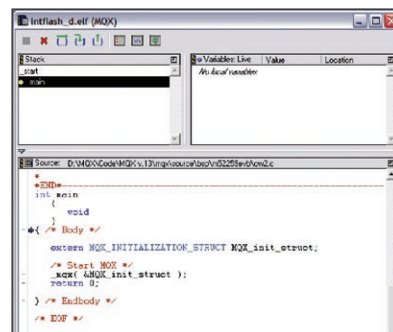

Figure 6: MQX debug entry point
14. Once the debug session starts you will see the MQX entry-point function in the code window as seen in Figure 6. Click the **Debug** icon again to run the code, which will look like Figure 7.